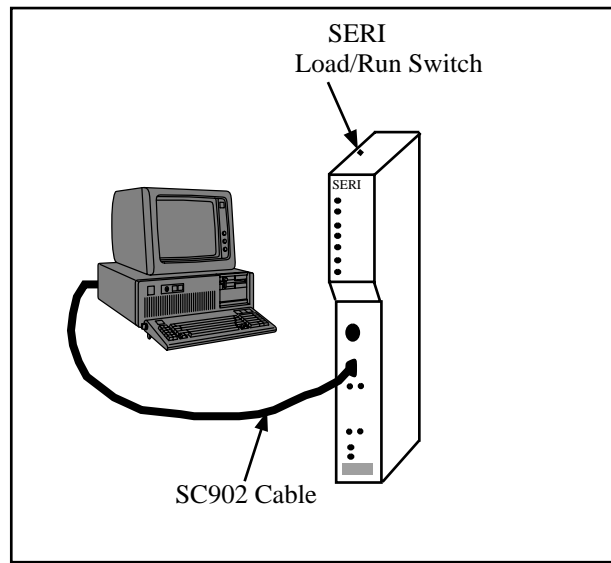

Figure 2-1 SERRI Firmware Download
- 3 Locate the Load/Normal toggle switch on the top of the SERI. (See Figure 2-1) Move this switch to the LOAD position. Install the SERI back into the register rack.